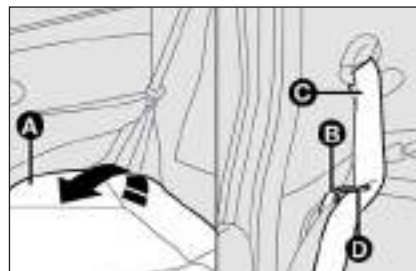

fig. 121
- check that the webbing **C-fig. 121** of each of the two side seat belts is inserted into the respective belt guiding catch **D-fig. 121**;
- raise the cushion **A-fig. 121** as shown in the figure
- release the seat back moving the levers **B-fig. 121** as shown by the arrow. Tilt it to make a single loading surface with the boot floor;